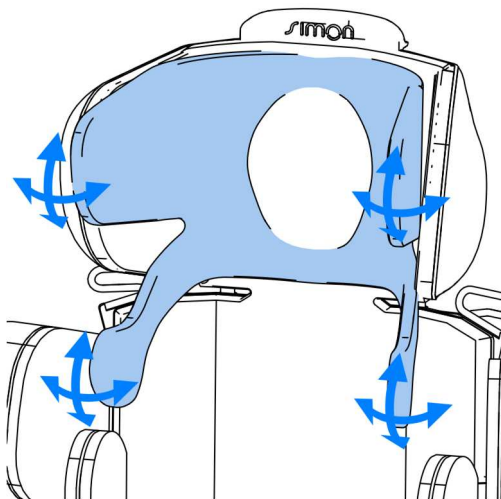

Fig. 22
7.6 Headrest insert adjustment and adaptation Fig. 22